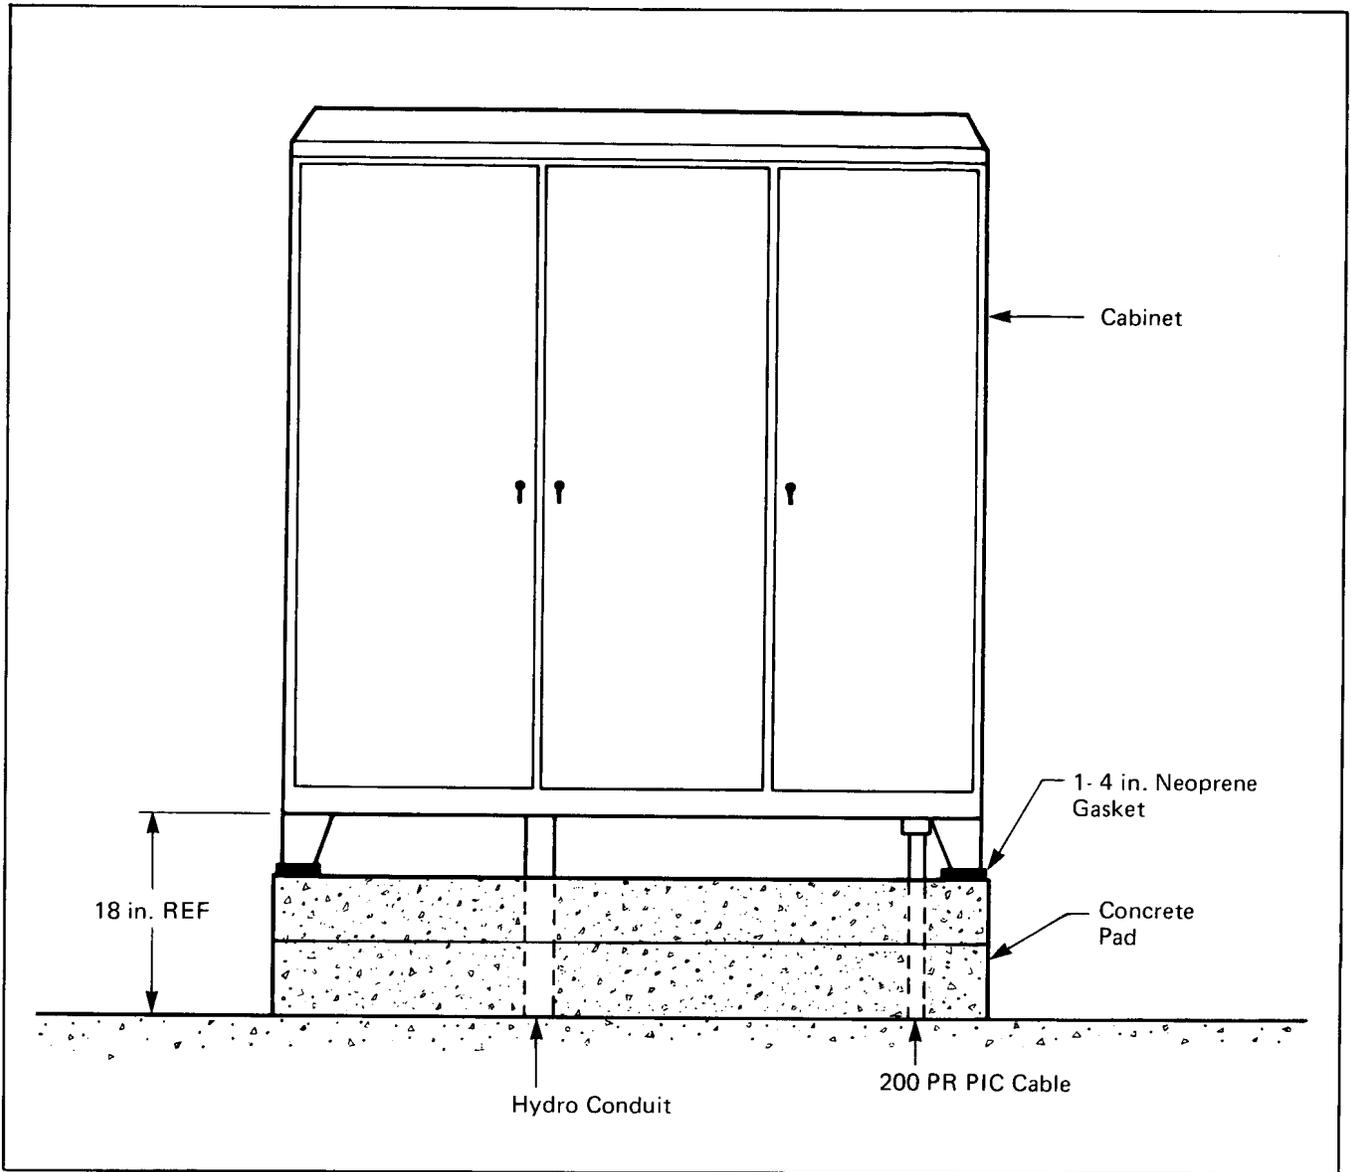

Fig. 18 – Concrete Pad Installation and Construction
4.02 When the pad is ready, place the 1/4-inch (6.35-mm) Neoprene gaskets, provided with the cabinet, over the mounting studs on the pad (Fig. 18).
4.05 Pull the vf distribution cable in through the bottom of the cabinet (Fig. 18). Tighten the cable gland to seal the cable entrance.